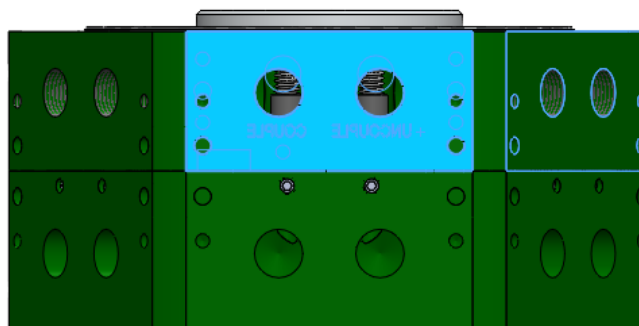

Figure 6.2-2. E100 Tool Changer – Docked Position
5. Stop the motion when the distance between the Robot Side interface surface and Tool Side interface surface are touching or as close as can reasonably be achieved. At this time, any electrical or fluid connections will be made by available side modules. Note that when the interface surfaces of the Robot Side and Tool Side are in contact, the outer edge of the Sides should be touching (Figure 6.2-2).